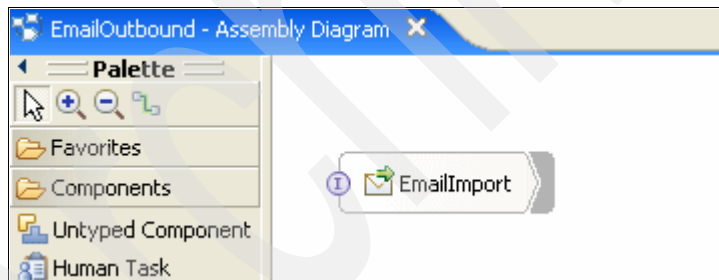

Figure 3-224 EmailOutbound assembly diagram
5. Open the EmailOutbound assembly diagram and note the EmailImport (shown in Figure 3-224).